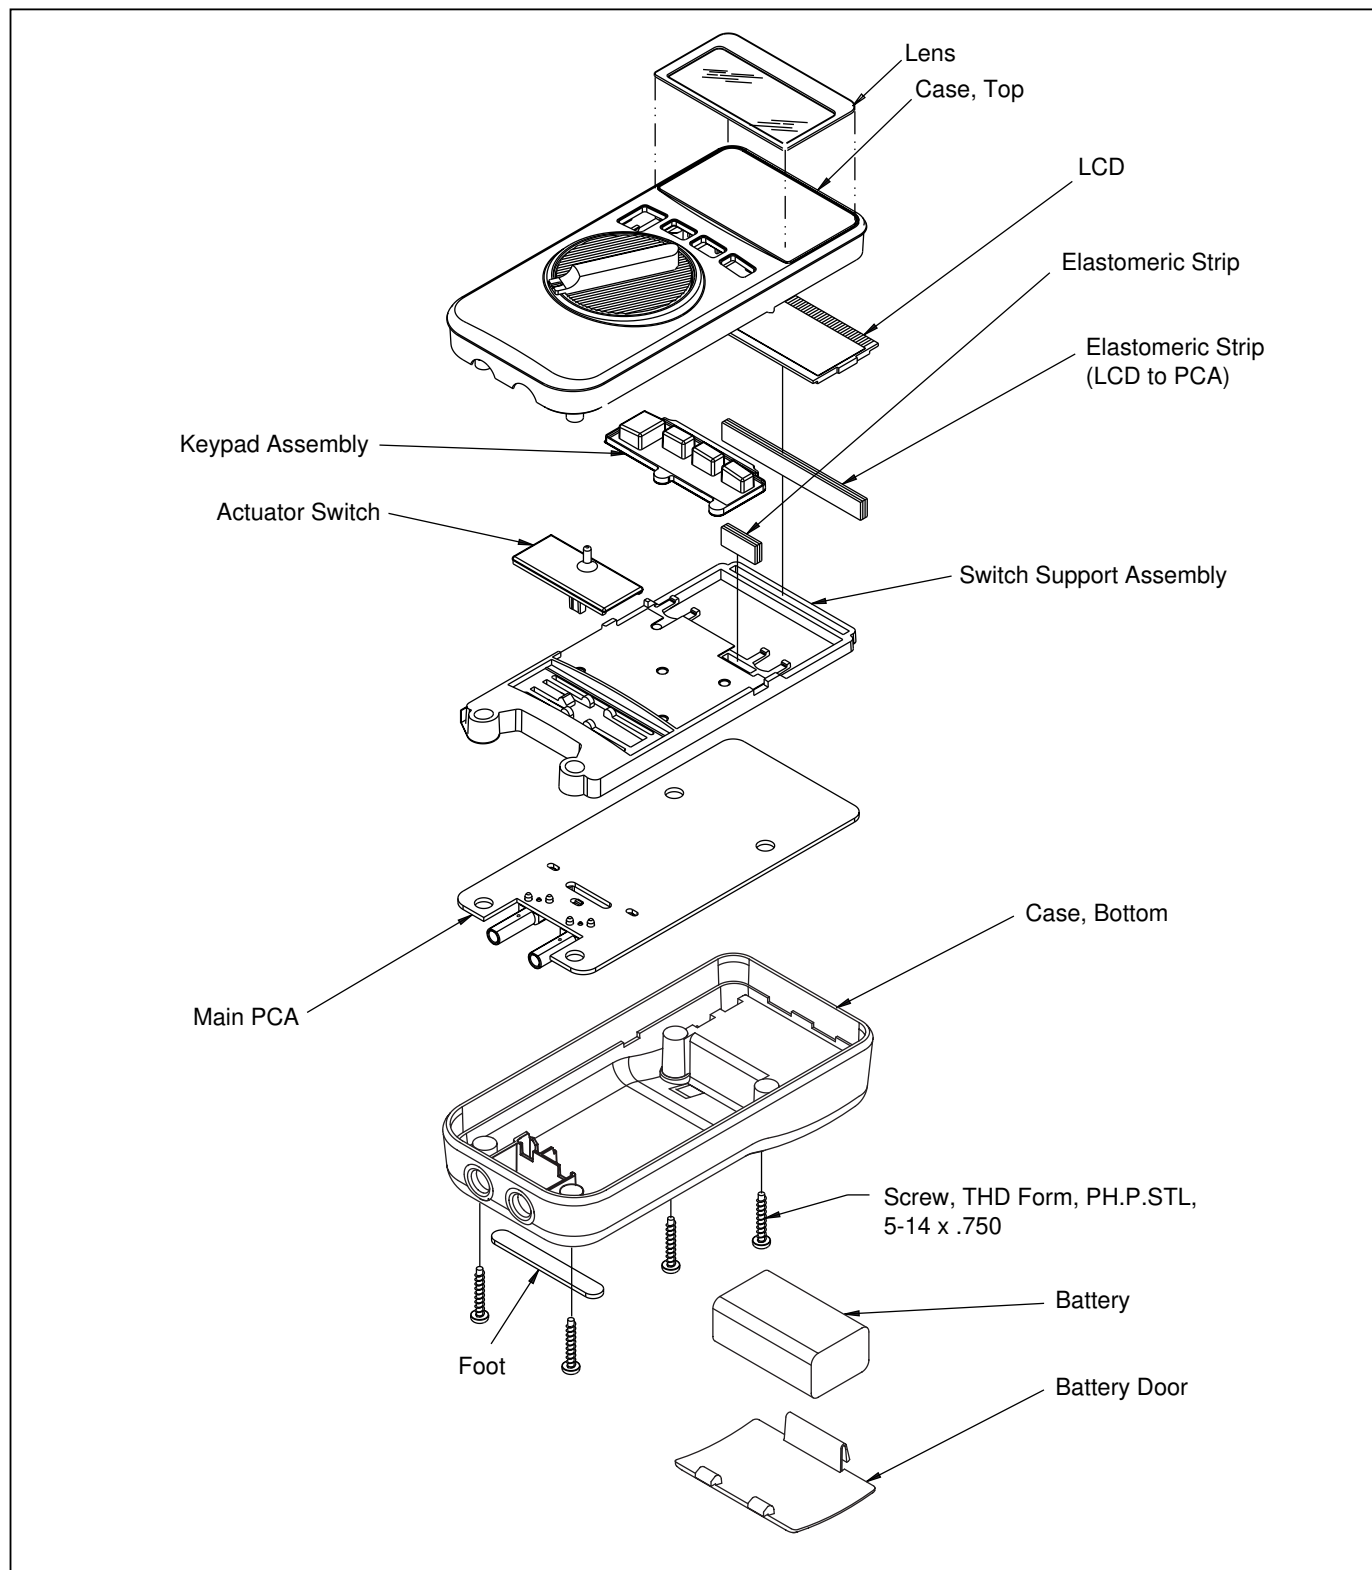

Figure 2. Disassembled Loop Calibrator
To disassemble and reassemble the Loop Calibrator, refer to Figures 2 and 3 as necessary and perform the following procedure.
10. **To remove the switch support:** Use a small, flat-blade screwdriver to gently unsnap the sides and top of the switch support from the snaps shown in Figure 2.